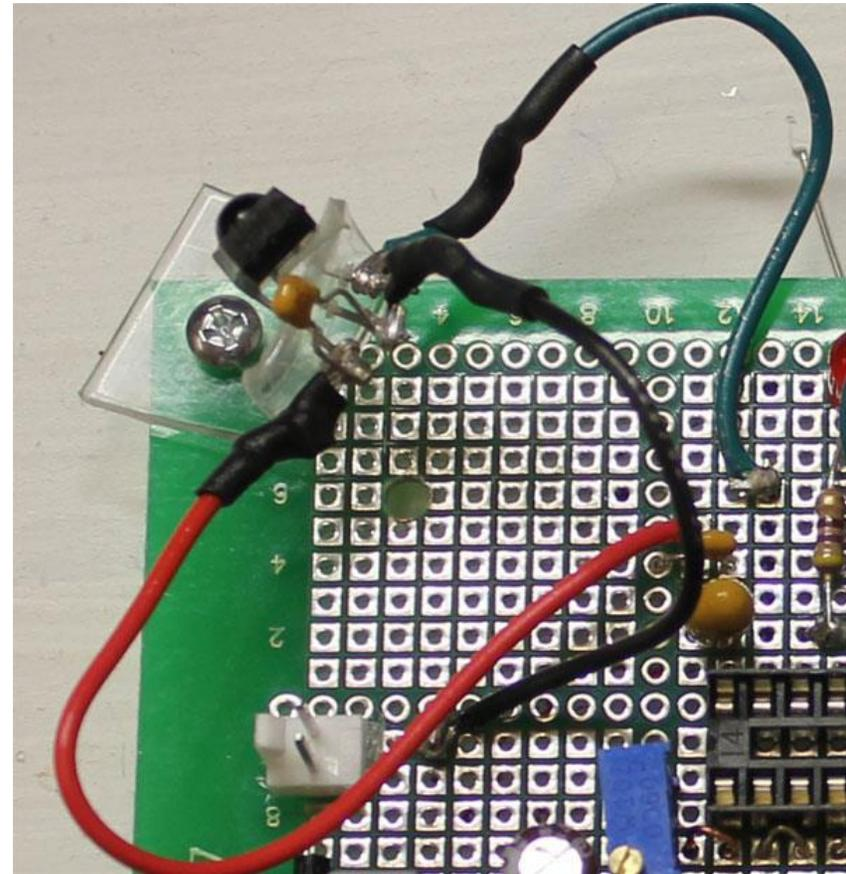

Figure 28
85. Mount the plastic L bracket for IC2 to the forward right corner of the board as seen in Figure 28. This bracket has three small holes for the three wires of IC2. Bend the three wires of IC2, IR receiver module, to form a right angle and insert the wires through the holes in the L bracket. If you have bent the wires correctly, the black lens of IC2 will be facing away from the board. IF YOU ARE UNSURE ABOUT THE PLACEMENT OF IC2, THEN ASK AN ADULT.
86. The image above is a drawing of IC2 with its pins numbered. The green wire is soldered to pin one, the black wire to pin 2 and the red wire to pin 3. Bend the bare ends of the wires into U-shapes and tighten them on the proper pins of IC2. Then solder the connections (Figure 28).
87. Solder capacitor C3 to pins 2 and 3 of IC2 (Figure 28).